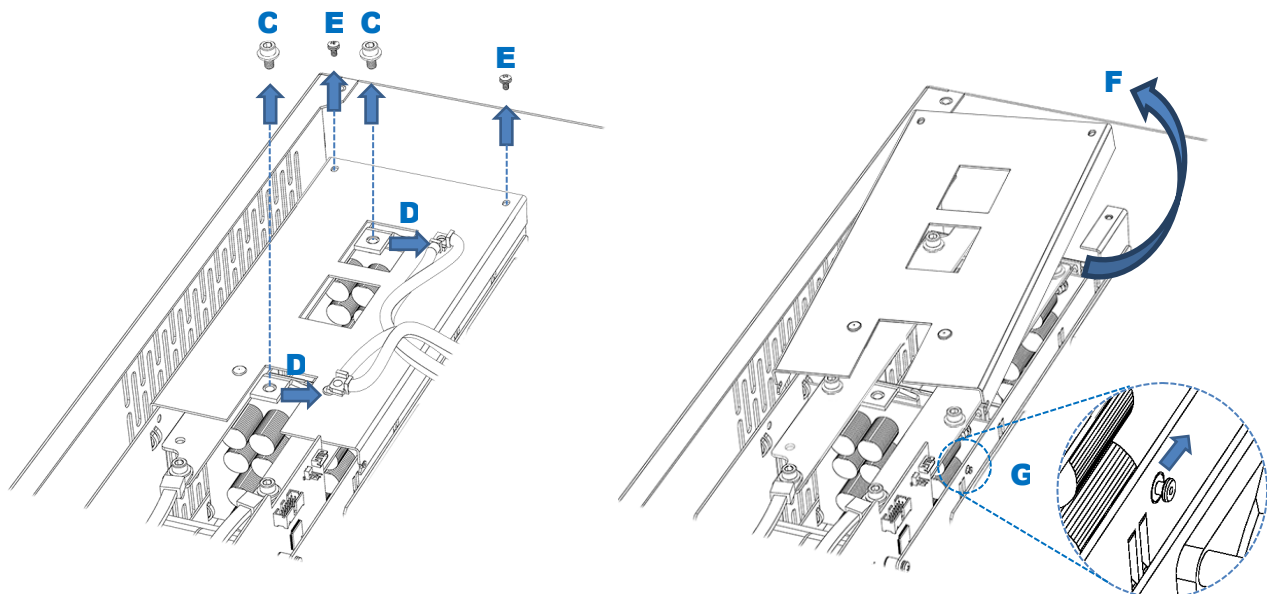

Figure 45 Power Module Cover
3. Using a 5 mm hex (Allen) wrench, remove bolts and washers for transformer cables. See **C** in Figure 45.
4. Remove transformer wires by bending them away from work area. See **D** in Figure 45. The voltage sense wires will be completely disconnected at this stage; set them aside.
5. Remove the cover for the power module cage. See Figure 45 for all items.
- Replace the cage cover by attaching the keyhole fastener **G** and lowering the cover into place **F**. Replace the cover screws **E**. See Figure 45 if necessary.
- Replace the transformer cables and hardware **C**. See Figure 45 if necessary. Ensure that the hardware is stacked in the following order.